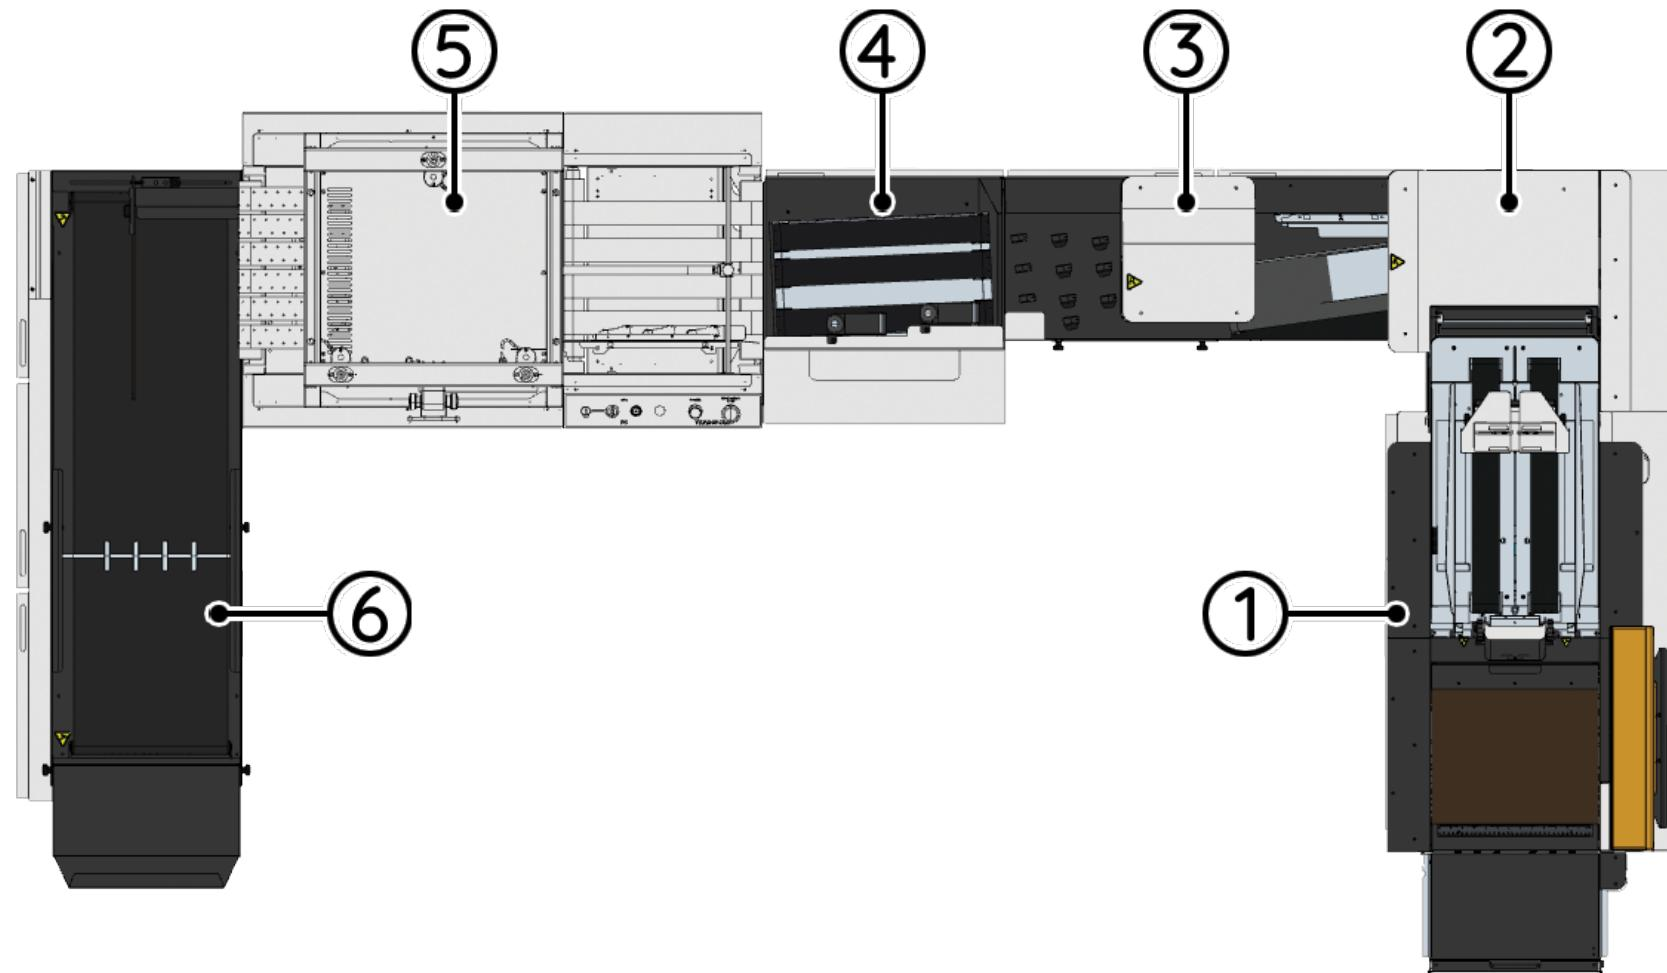

Figure 2.2 – Configuration with Sorter
- Figure 2.2 Configuration with Sorter